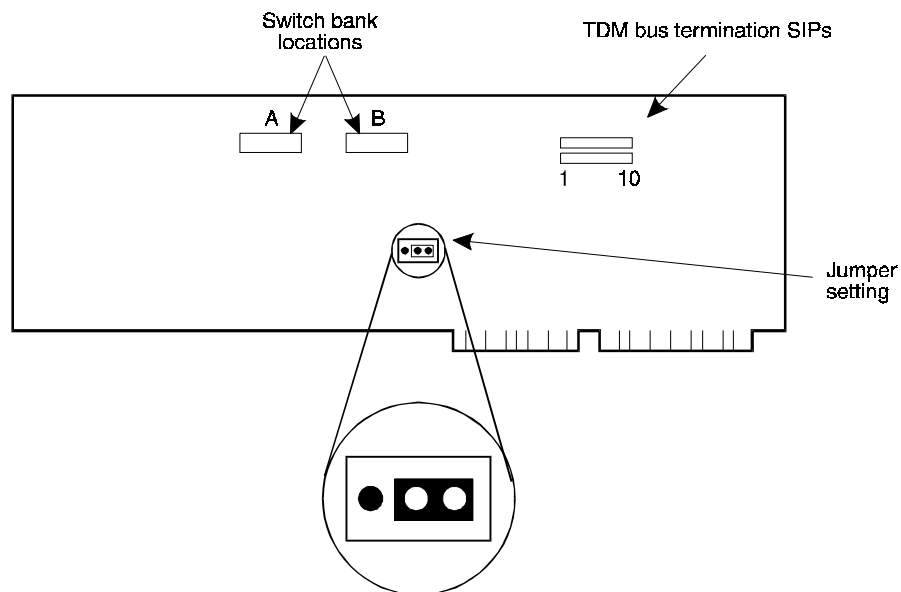
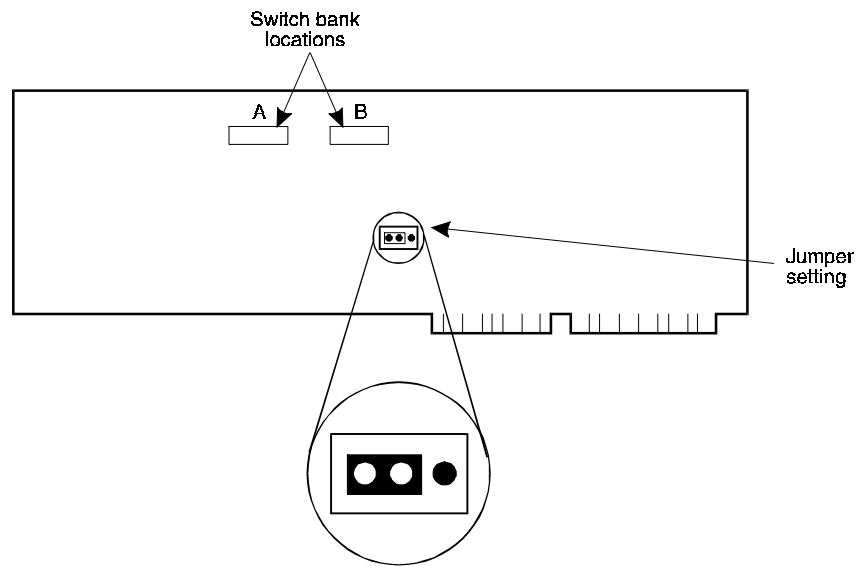

Figure D-50. Location of Switch Banks A and B and Jumpers on the IVP6 (AYC5) T/R Circuit Card
Figure D-51. Location of Switch Banks A and B and Jumpers on the IVP4 (AYC6) T/R Circuit Card
- IVP6 (AYC5) — see Figure D-50
- IVP4 (AYC6) — see Figure D-51
Jumpers on the IVP6 (AYC5) and IVP4 (AYC6) circuit cards are preset at the factory. However, before you install these cards, ensure that those settings are as shown in Figure D-50 and Figure D-51.